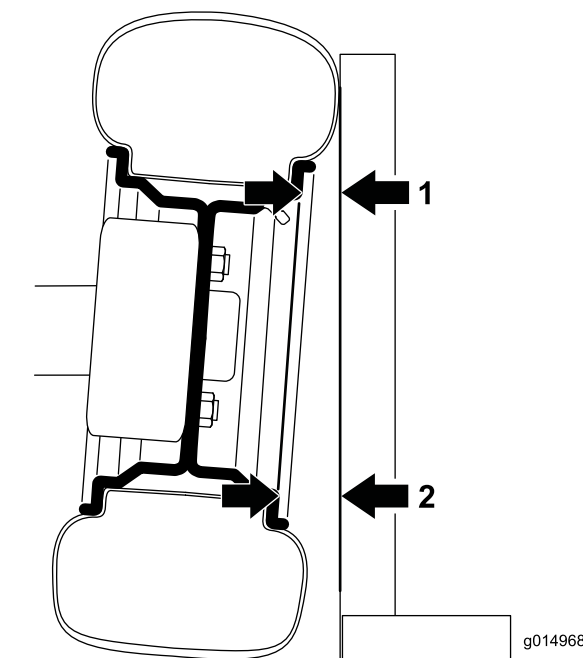

Figure 30
1. To check the camber, place a 90 degree square on the ground with the vertical edge touching the face of the tire (Figure 30).
2. Measure from the same part of the rim on the top and bottom of the tire to the square (Figure 30). The distance of the bottom measurement should be 0.09 inch (2.3 mm) larger than the top measurement. Complete the measurement on both front tires before adjusting.